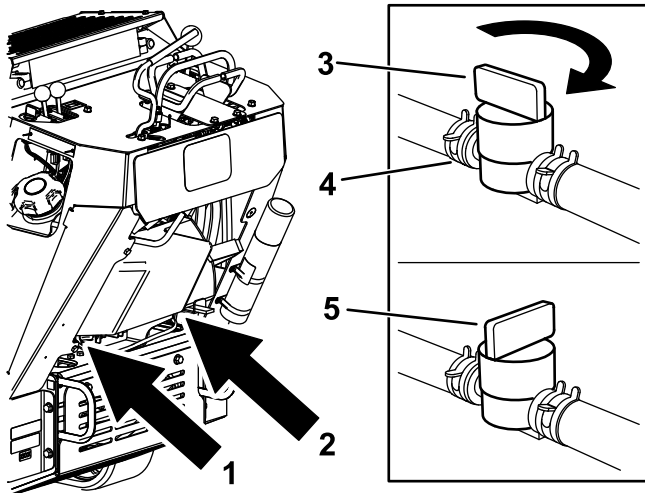

Figure 47
3. Turn the fuel-shutoff valve to the closed position (Figure 47).
4. Squeeze the ends of the hose clamp on the engine side of the valve together and slide it up the fuel line away from the valve (Figure 47).
5. Pull the fuel line off the valve (Figure 47).
3. Turn the fuel shutoff valve to the closed position (Figure 47).
5. Turn the fuel shutoff valve to the open position (Figure 47).